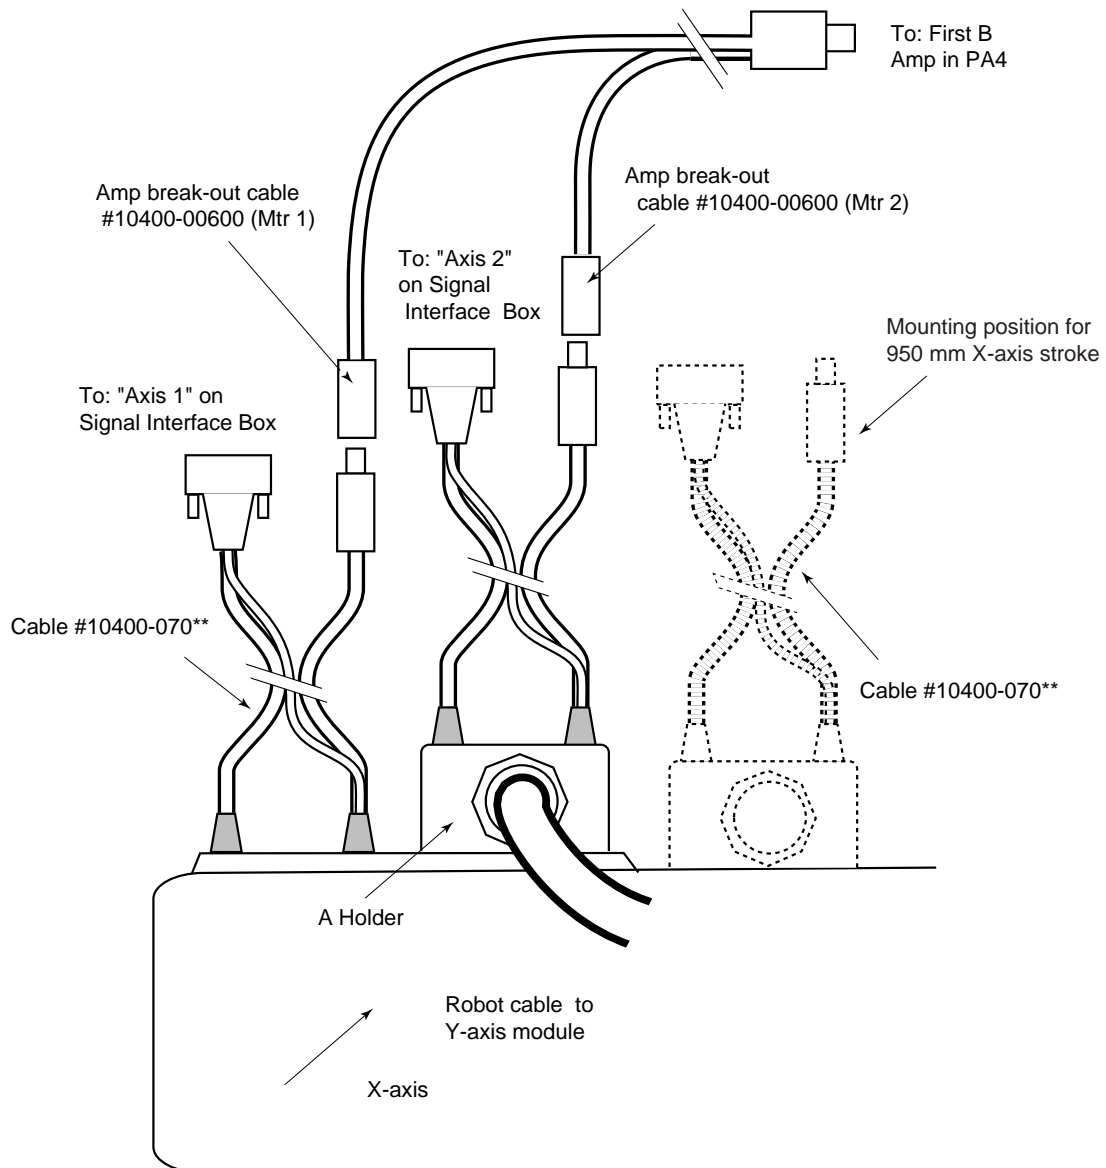

Figure 4-49. Connecting to an Adept MV Controller
- a. Connect the two barrel ends of the cable to the X-axis module as shown in Figure 4-49. These connectors have different pins sizes and cannot be installed incorrectly.
- b. Attach the A holder end of the robot cable to the mounting holes on the motor cover of the X-axis module as shown in Figure 4-49 (refer to Section 4.3 for holder mounting).
- d. Connect the two barrel ends of the cable to the A holder as shown in Figure 4-49. These connectors have different pin sizes and cannot be installed incorrectly.